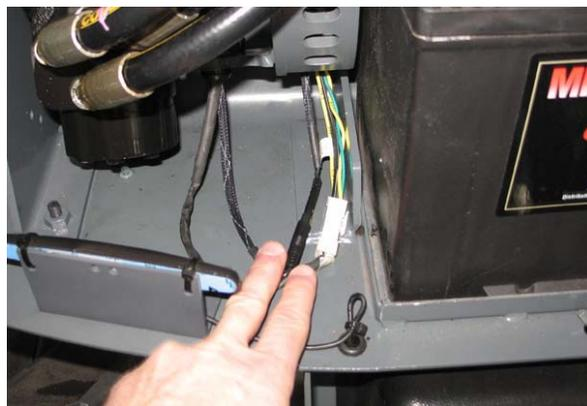

FIG. 1
1. Disconnect the pod cables from the main wire harness. (Fig. 1)